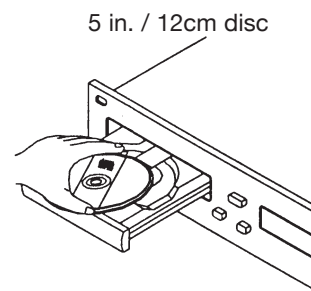
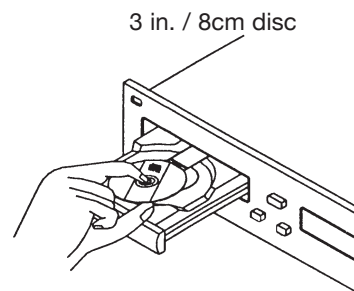
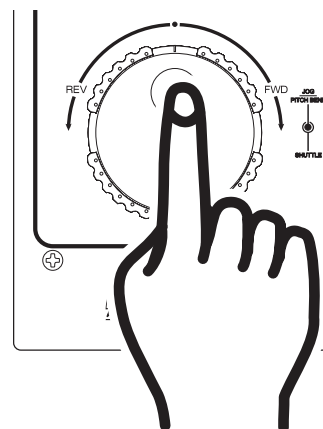

Figure 8
Figure 9
Figure 10
The DCD-PRO610 can play both 3 inch (8 cm) and 5 inch (12 cm) compact discs (CD's). Odd shaped and oval CD's are not compatible. When loading a CD into the unit always hold the disc by its' edges and place it in the disc tray. Never touch the signal surface (the glossy side). When using 5 inch/12 cm discs, place the disc in the outer tray guides (figure 8), and when using 3 inch/8 cm discs, place them securely in the inner guides (figure 9).
This feature allows you to scroll through a track to set a cue, starting sample, or loop point. To use the scroll function you must first be in Pause Mode or Cue Mode. Once you are in Pause or Cue mode, use your finger tip to turn the JOG WHEEL (19) to scroll through the track (figure 9). Turning the wheel in a clockwise direction will advance the frame search and turning the wheel in a counter-clockwise direction rewinds the frame search. When you use the JOG WHEEL (19) the monitor (headphone level) function allows you to hear what you are scrolling through. Once you reach your desired starting point you can set a cue (starting) point by pressing the PLAY/PAUSE BUTTON (29) as in figure 10. Pressing the CUE BUTTON (27) will return the disc to the cue point just set.